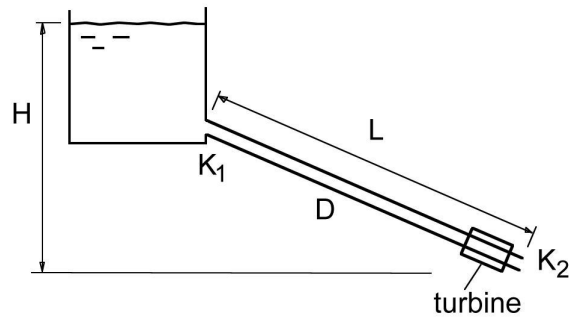

Figure P8.50
8.50 A large tank feeds a straight pipe that delivers water to a turbine, and then exits to atmosphere, as shown in Figure P8.50. The friction factor $f = 0.01$, the length $L = 100 \text{ m}$, the diameter of the pipe $D = 0.1 \text{ m}$, the loss coefficients $K_1 = K_2 = 1$, the water density $\rho = 1000 \text{ kg/m}^3$, the water viscosity $\mu = 15 \times 10^{-3} \text{ N}\cdot\text{s/m}^2$, the bulk velocity in the pipe $\bar{V} = 2 \text{ m/s}$, and the turbine develops 500 W .